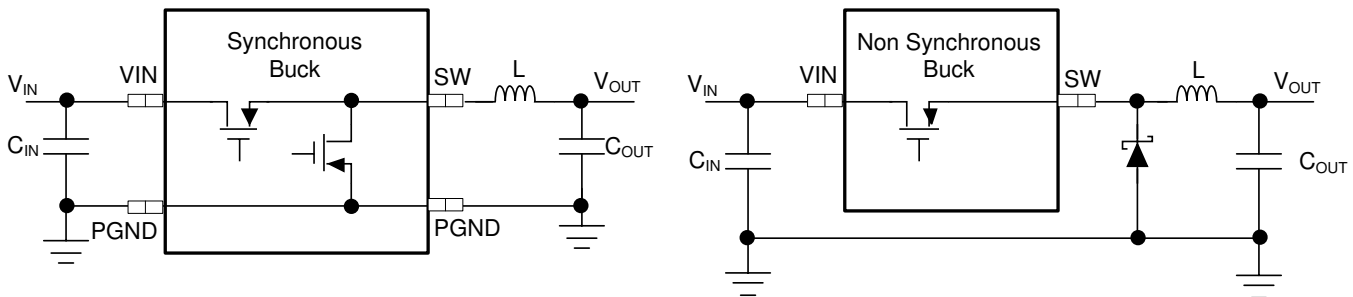

Figure 10. Simplified Synchronous versus Non-synchronous Buck Converters
The LM73605 and LM73606 are synchronous buck converters with both power MOSFETs integrated in the device. Figure 10 shows a simplified schematic for synchronous and non-synchronous buck converters. The synchronous buck integrates both high-side (HS) and low-side (LS) power MOSFETs. The non-synchronous buck integrates HS MOSFET and works with a discrete power diode as LS rectifier.